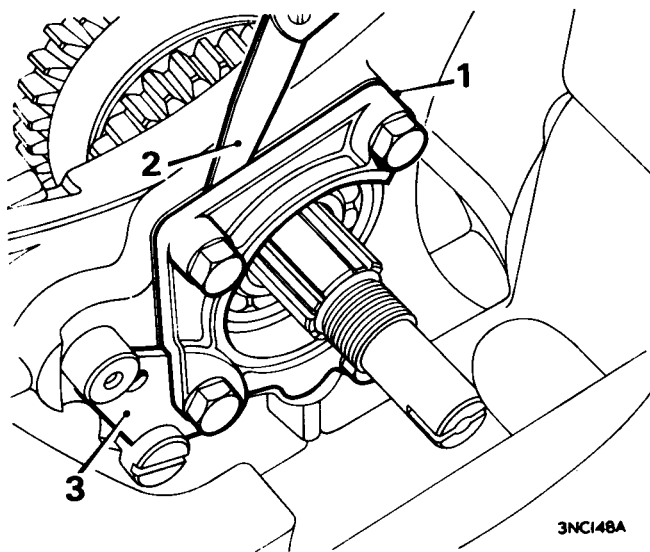

Fig. F.28
74. Check the gap with feeler gauges, see Fig. F.28; select the required thickness of shims from the chart given below: